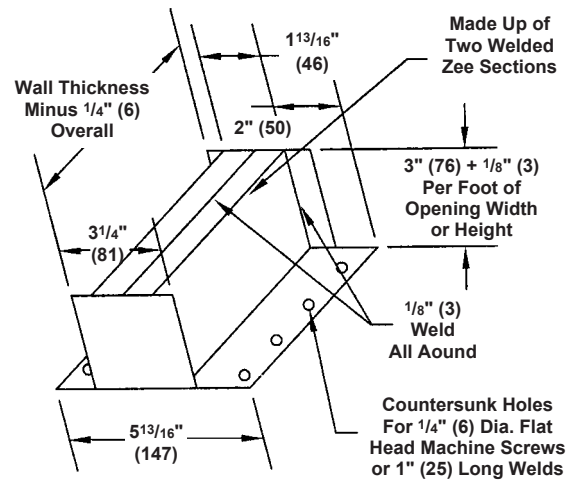
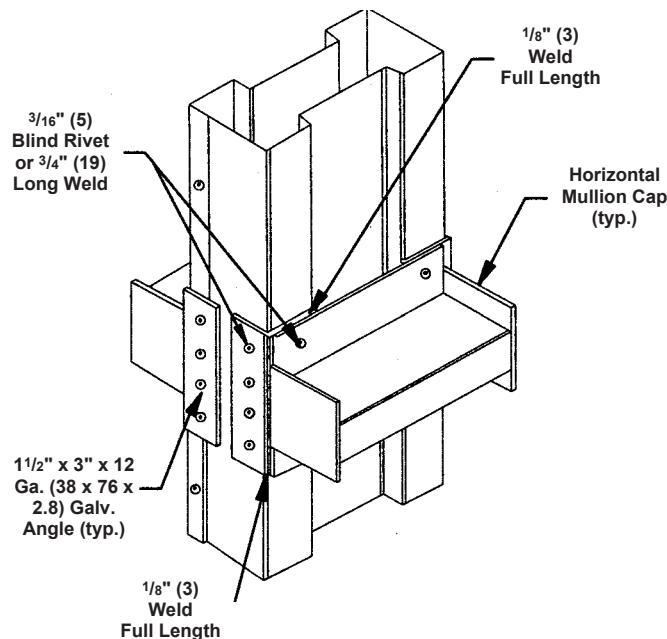

FIGURE 2
FIGURE 3
Fabricate two caps per each mullion of 12 gauge (2.8) galvanized steel as shown in Figure 2 for vertical mullions and horizontal mullions. Caps must permit mullion to overlap each cap by 3" (76) minimum. Cap height is calculated by adding 3" (76) to permitted mullion expansion clearance which is $\frac{1}{8}$ " (3) per foot of wall opening height.
Drill holes in caps and concrete for anchoring steel mullion caps with $\frac{1}{4}$ " (6) - 20 x $\frac{5}{16}$ " (8) steel screws and $\frac{3}{8}$ " (10) diameter x 1" (25) concrete expansion anchors as shown in Figure 2. Set horizontal mullion caps at vertical mullions as shown in Figure 3 as required. If steel lintels are present, four 1" (25) welds (two per mullion cap leg) may be used to anchor each mullion cap.